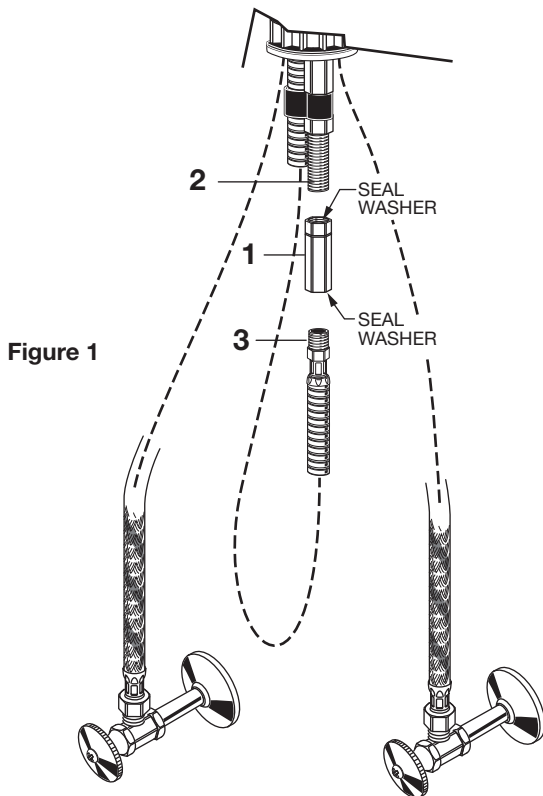

Figure 1
- Check that seal washers are installed in both ends of SPRAY HOSE ADAPTER (1). Thread SPRAY HOSE ADAPTER (1) onto faucet SHANK (2). Tighten with adjustable wrench. **Figure 1.**
- Thread HOSE END (3) into bottom of SPRAY HOSE ADAPTER (1). Tighten with adjustable wrench. Make sure all connections are tight. **Figure 1.**